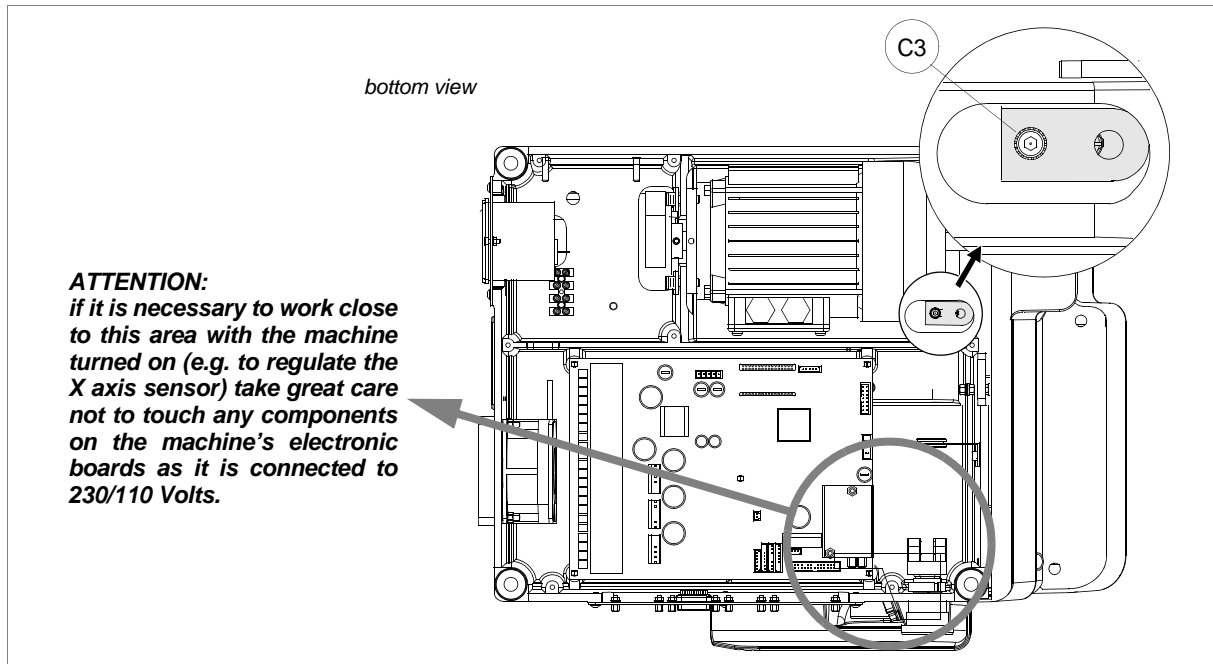

Fig. 122
- loosen the (C3) screw (fig. 122) that secures the sensor support plate. Manually move the sensor up until the display's description goes from OFF to ON.